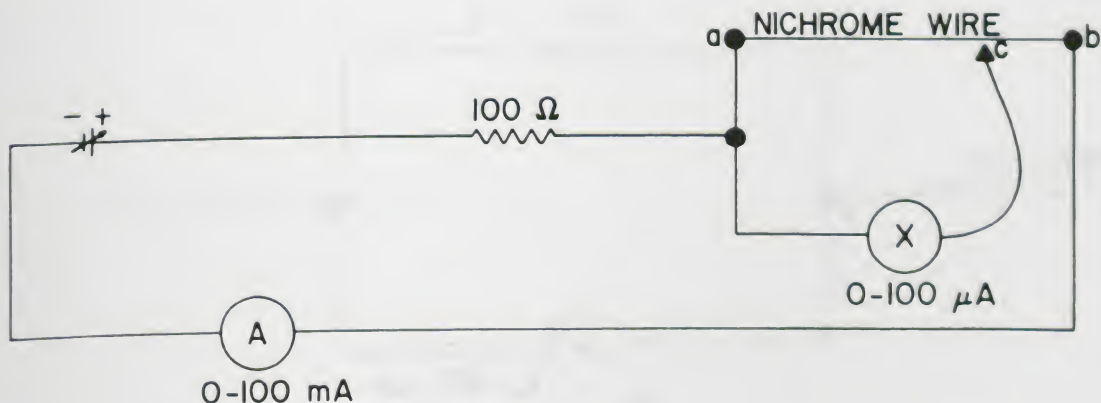

Figure 48.
1. Wire the circuit shown in Figure 48. The ammeter which is to be converted is denoted by  $X$ . For the purpose of this experiment, the shunt resistance  $R_p$  consists of a length of nichrome wire (use the mounted nichrome wire of Experiment B-1). A lead with a banana plug or spade lug at the end serves adequately as a sliding contact to the nichrome wire.